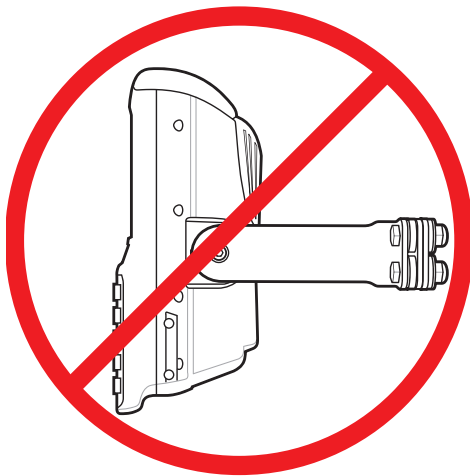

Figure 2-9 *Incorrect Mounting*
- Do not mount the vehicle computer with the mounting bracket perpendicular to a wall as shown in Figure 2-9.
4. Place a fuse and fuse holder in-line of the red, black and yellow wires approximately four inches from the cable end, as shown in Figure 2-9 on page 2-9.